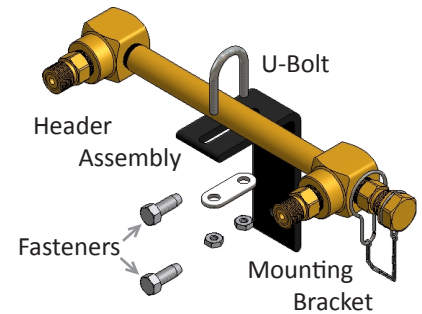

Figure 5
5. Mount the manifold by placing the header on the bracket. Fit the U-Bolt over the header pipe and tighten the mounting nuts (Figure 5).
6. Using a level, mark the placement of any additional mounting brackets while keeping the header on a horizontal plane (Figure 5).
8. Mark the mounting hole and install fasteners suitable for type of wall construction (Figure 5).